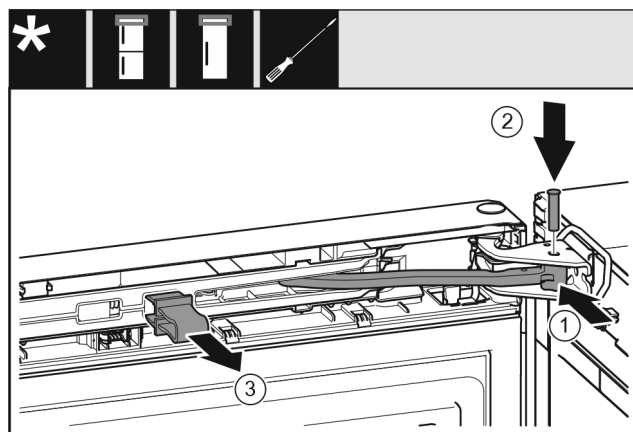

Fig. 30
- ▶ Turn the joint Fig. 30 (1) in the bearing block.
- ▶ Insert the bolt Fig. 30 (2) into the bearing bracket and joint. Ensure that the latching cam is in the groove properly.
- ▶ Remove the safeguard Fig. 30 (3).